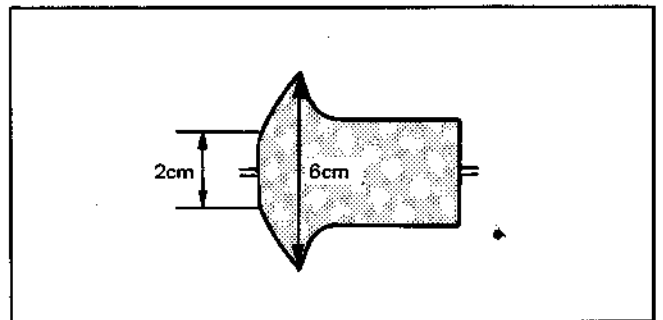
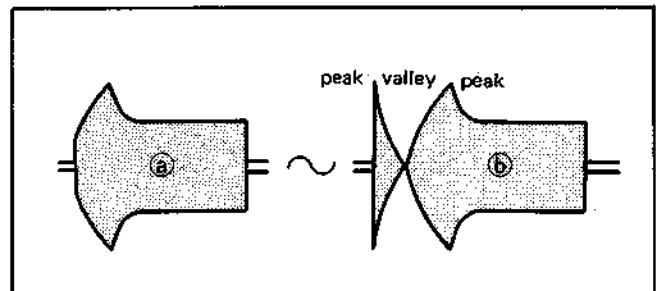

Fig. 2-8 No. 0 Guide Waveform
Fig. 2-9 Fluctuation
- 2) While observing the RF output waveform, turn the ⊖ screw at the top of the No. 0 guide slowly to raise and lower the guide (after 30° turn, observe the waveform for 5 - 10 seconds), so that the RF output waveform entrance side is as shown in Fig. 2-8.
When No. 0 guide is raised, the number of peaks and valleys increases as shown in Fig. 2-9 (b), and decreases when it is lowered. When the waveform fluctuates from (a) to (b) as shown in Fig. 2-9, adjust No. 0 guide so that a waveform becomes like the waveform in Fig. 2-8.